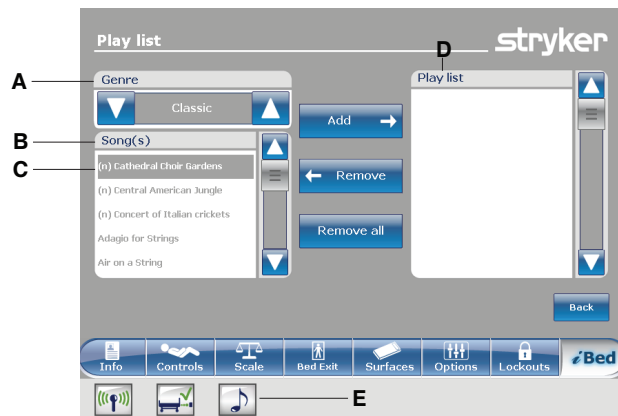

Figure 116: Play list
Tap the up and down arrows to select a genre (A) (Figure 116 on page 103).
Tap the up and down arrows to scroll through the available songs in the **Song(s)** area (B) (Figure 116 on page 103).
Note: The song that is currently selected is highlighted in gray (C) (Figure 116 on page 103).
Tap **Add** to add a song from the **Song(s)** area (B) to the **Play list** area (D) (Figure 116 on page 103).
Tap **Remove** to remove a song from the **Play list** area (D) to the **Song(s)** area (B) (Figure 116 on page 103).
Tap **Remove all** to remove all songs from the **Play list** area (D) to the **Song(s)** area (B) (Figure 116 on page 103).
Note: A music note icon appears at the bottom of the touch screen when music is playing (E) (Figure 116 on page 103).
To return to the **Sound therapy** screen, tap **Back** (Figure 116 on page 103).